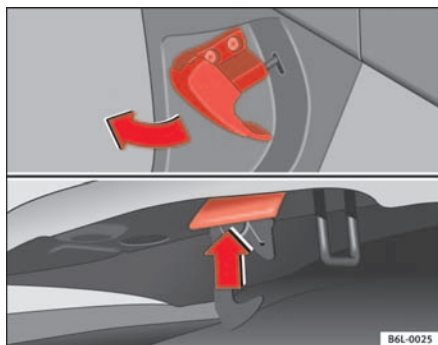

Fig. 125 Arrester hook for bonnet.
- To release the bonnet, pull the lever under the dashboard ⇒ fig. 125 in the direction indicated (arrow). The bonnet will be released by a spring action ⇒ ⚠.